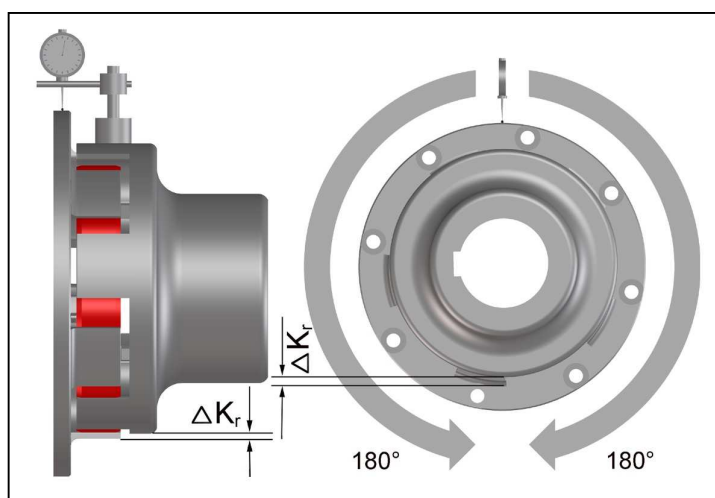

Fig. 7
- Measure one complete revolution (360°). Determine the largest deviation  $Kr1$  and the smallest deviation  $Kr2$  (Fig. 7).